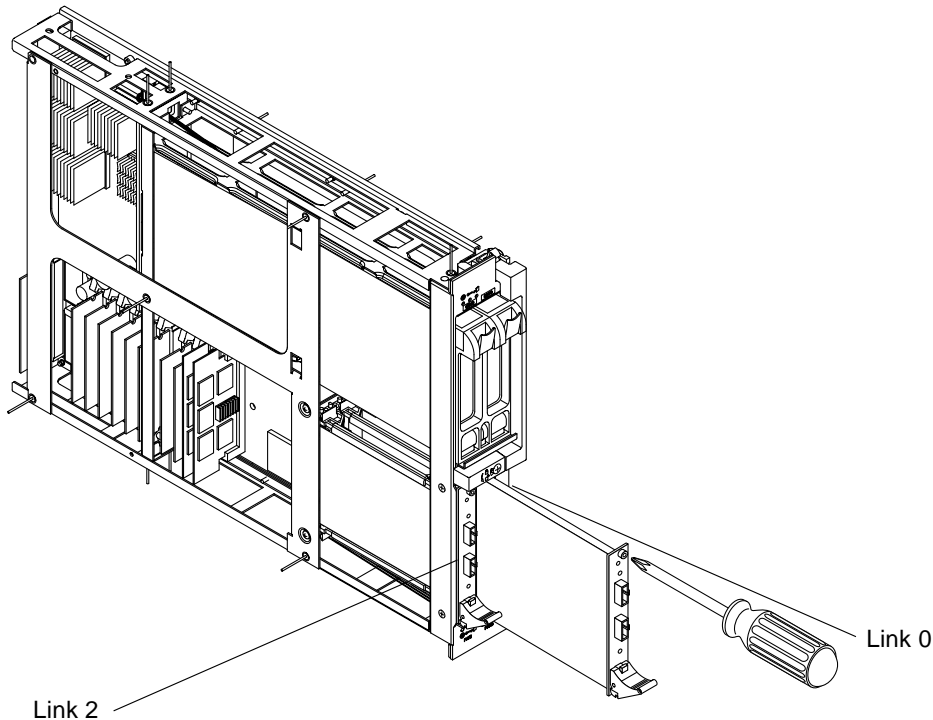

FIGURE 3-8 Replacing an Optical Module in a Sun Fire Link Assembly for Sun Fire 15K/12K Systems
4. **Hold the optical module by the two side edges or the front panel and slide it into the slot between the two guides (FIGURE 3-8).**